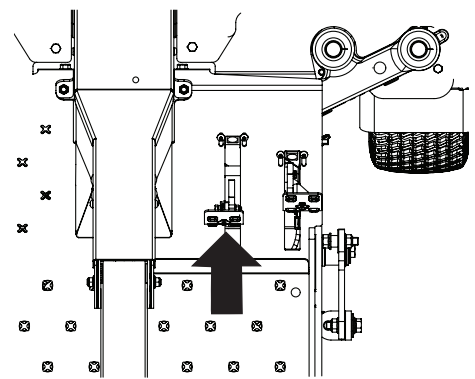

Figure 28
1. Slowly push the forward drive pedal forward. The mower will start to move forward. See Figure 28.